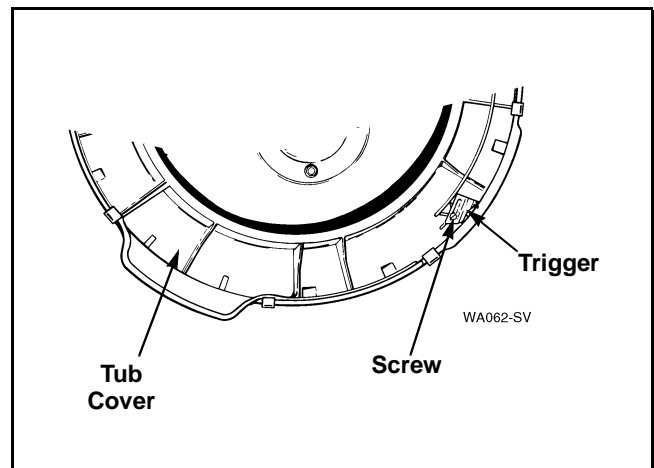

Figure 59
**NOTE:** The trigger is centered on the mounting screw at the factory. Refer to *Figure 59*.
- Loosen screw holding trigger to tub cover, move trigger to the right (increases sensitivity) or to the left (decreases sensitivity). Refer to *Figure 59*.